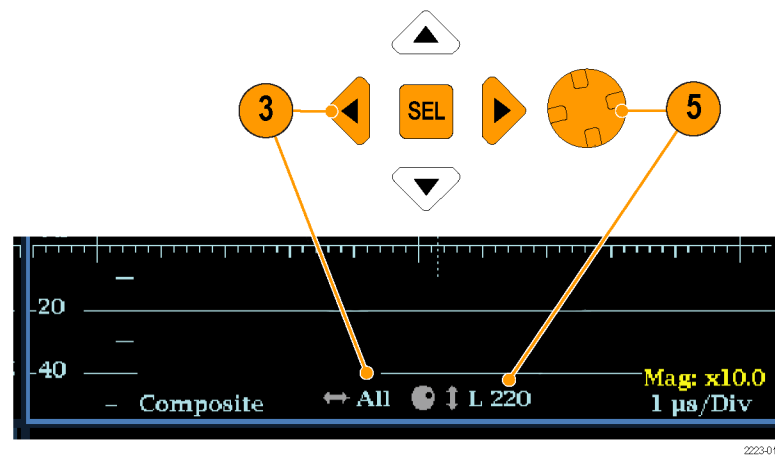

Figure 42: Navigating line selection
3. Press the left or right arrow key to select **F1** (field 1), **F2** (field 2), or **All**. (See Figure 42.)